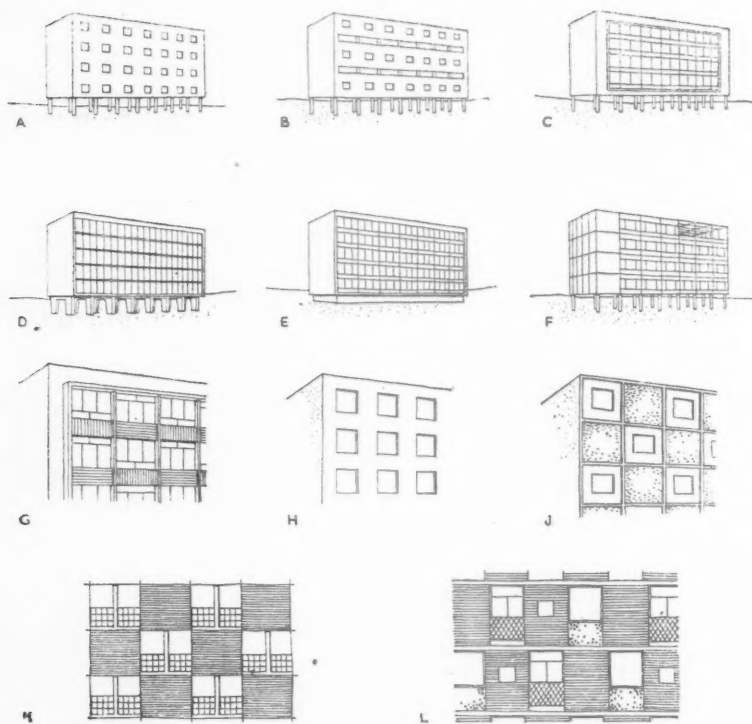

Figure 5.
Fig. 5 (D) shows a common variation in which there is even greater dissociation between the superstructure and the grid. The façade is freed from the columns by being placed in front of them (its pattern nevertheless reflects the steel grid), and the load bearing function of the columns is dramatized in design. Le Corbusier in his *Marseilles* scheme used a quite different system for the ground structure.
Fig. 5 (E), to bring you back to a previous example, lowers the building quite close to the ground, and although the spatial interpenetration is lost, the façade is still cut off from the ground, and the walls tend to float; which gives far more significance to the pattern than when they just run straight into the ground.
Fig. 5 (F) shows part of the top floor exposed, as in the case of a board room which opens on to a roof garden. The exposed structural frame gives a sense of enclosure to the roof by throwing an optical barrier round it, and the space is knitted into the regular rhythms of the façade.
It would be absurd to try to reproduce the *brise-soleil* patterns in this country, but nevertheless the basic idea of setting up rhythms by contrasting adjacent units within the façade is being pursued, as in (G). With the office block, the functional requirement of the continuous window restricts alternating contrasts in a horizontal direction. But in a building type that does not need very wide windows and one where room types are repeated (say a block of flats), there are all kinds of possibilities. With a load bearing wall the windows are placed above each other so that the loads are concentrated on to piers between them Fig. 5 (H), but if the load is taken by a frame the windows can alternate and solid can be placed over void Fig. 5 (J).
Tecton, in their Paddington scheme, alternate windows framed with the columns Fig. 5 (K), and in some flats under construction in St. Pancras I alternate bedroom and living room windows and set up a minor pattern by small windows set in the brick panels Fig. 5 (L). This constitutes a combination of the framed expression with the hole in the wall expression.